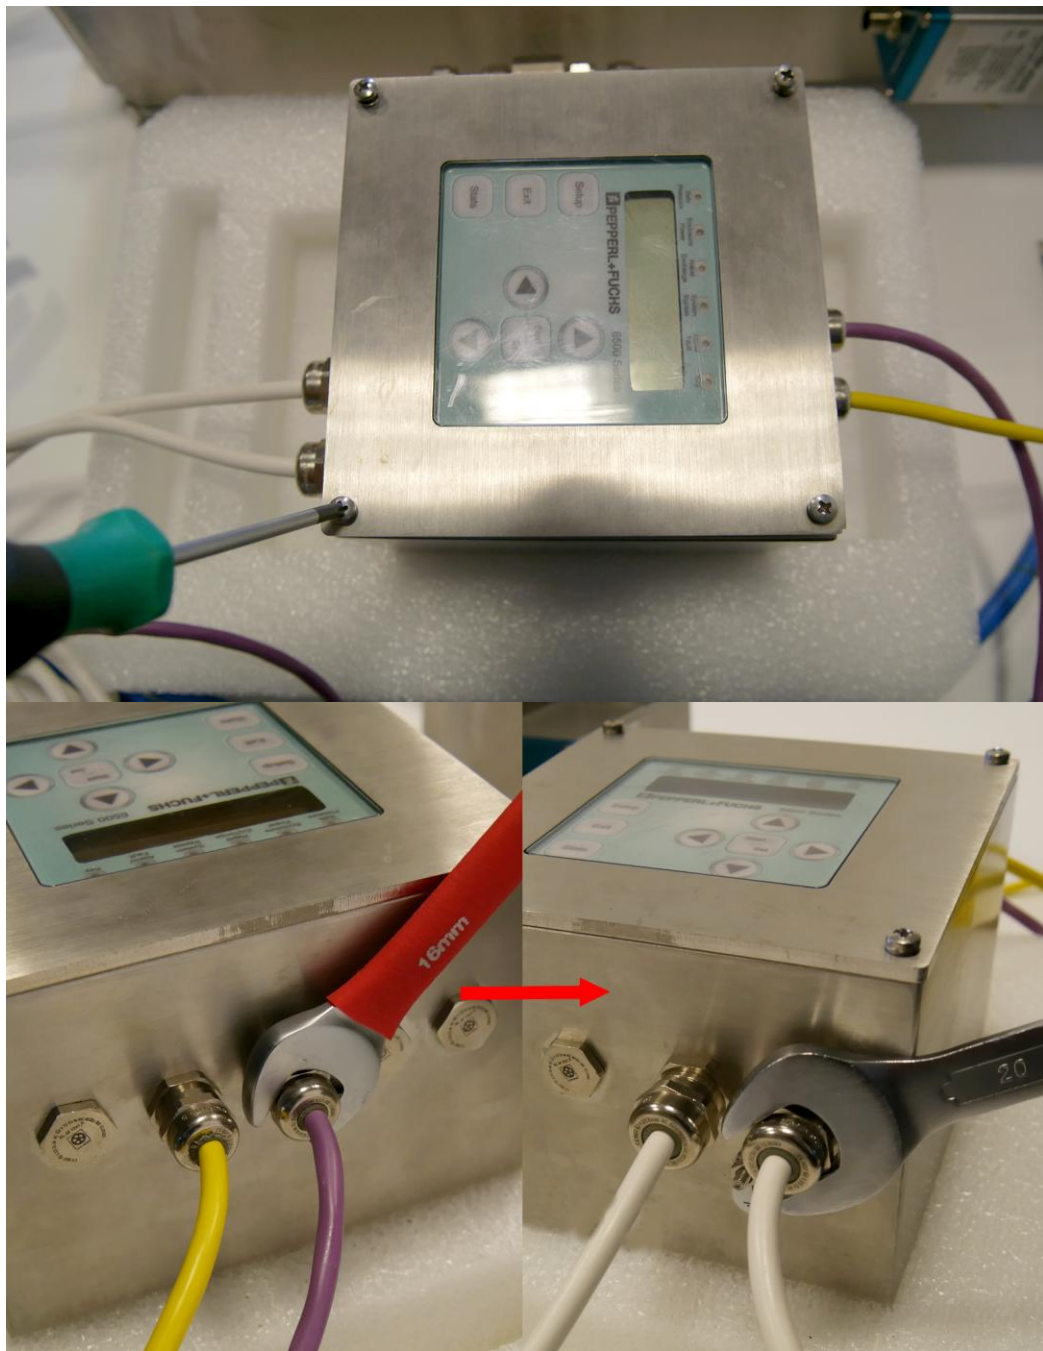
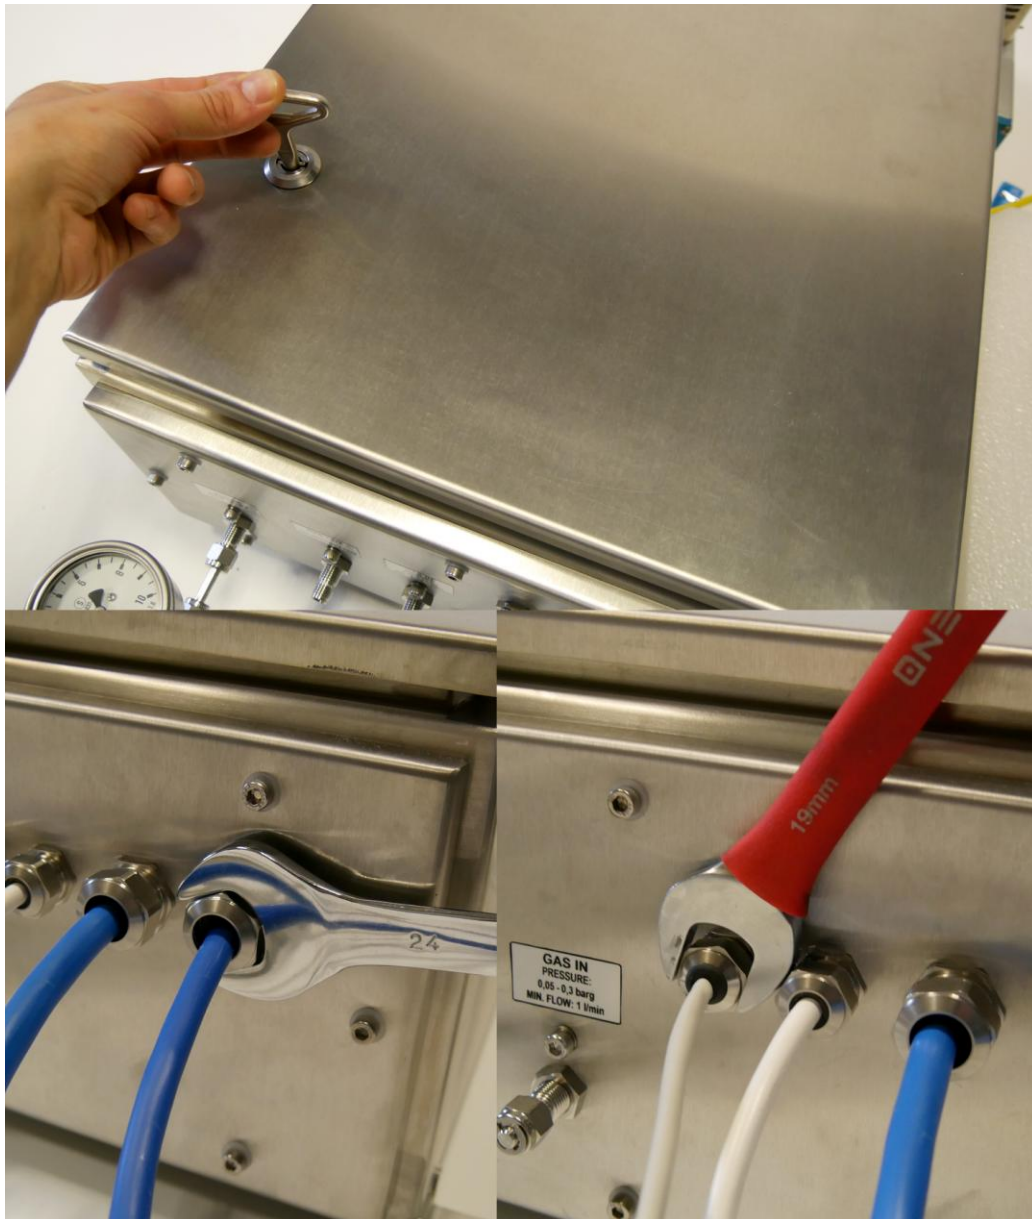

Figure 175. Closing and sealing the controller.
Figure 176. Closing and sealing the analyzer.
5. Close the analyzer and purge controller covers. Make sure all glands and covers are tightened well. Controller and analyzer housings should be sealed before starting (**Figure 175** and **Figure 176**). Use 16mm and 20mm wrenches for sealing controller glands and 19mm and 24mm wrenches for sealing analyzer glands.